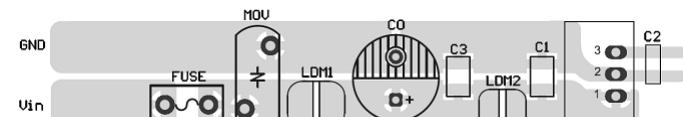

Fig. 7 Recommended EMC circuit-PCB layout
- When the products used as the circuit like figure 7, an inductor named as LDM up to 10μH is recommended in the circuit to reduce the mutual interference.